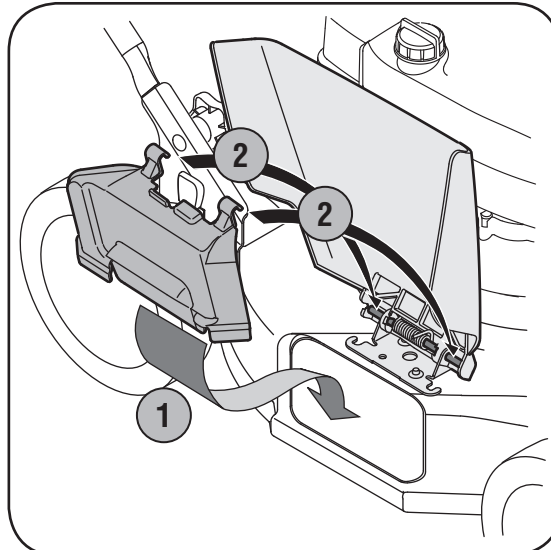

Figure 3-7: Install the optional mulch plug to use the mower as a mulcher.
1. Lift up and hold the side discharge chute. Insert bottom lip of the mulching plug inside the chute opening, Figure 3-7.